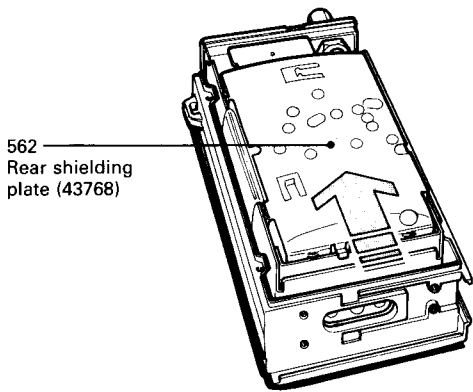

Fig. 5-1-3
4. Slide the inner frame upward slightly as shown in Fig. 5-1-3, and lift the frame away from the front panel.